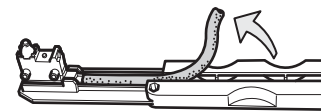

Fig. 9
- ▶ Remove the cable from the end of the installation aid (Fig. 9).